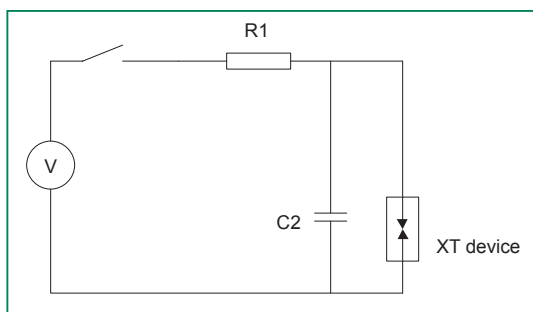

Fig 1. Recommended breakover voltage test circuit
(1) Measured on recommended test circuit (fig 1.)
(2) Measured @ 100 Volts DC
(3) Current required for transition to on-state
(4) Measured @ 1 MHz, zero Volt bias